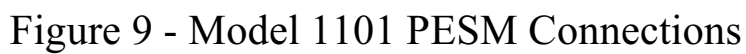

Figure 9 - Model 1101 PESM Connections
2. Run a 4-conductor wire from the Omni controller to each Model 1101. Connect as shown in FIGURE 9. Be sure to install the 1101FK (included with PESM) as shown. The 1101FK reduces self-heating of the PESM relay.
The PESM is provided with an encapsulated 1K ohm resistor attached to a length of wire. In mechanical thermostats, the resistor allows enough current to keep the air conditioning mode "anticipator" in the thermostat warm. This decreases the response time for the air conditioner to come on when the Energy Saver is turned off. The resistor should be installed as shown in Figure 9.